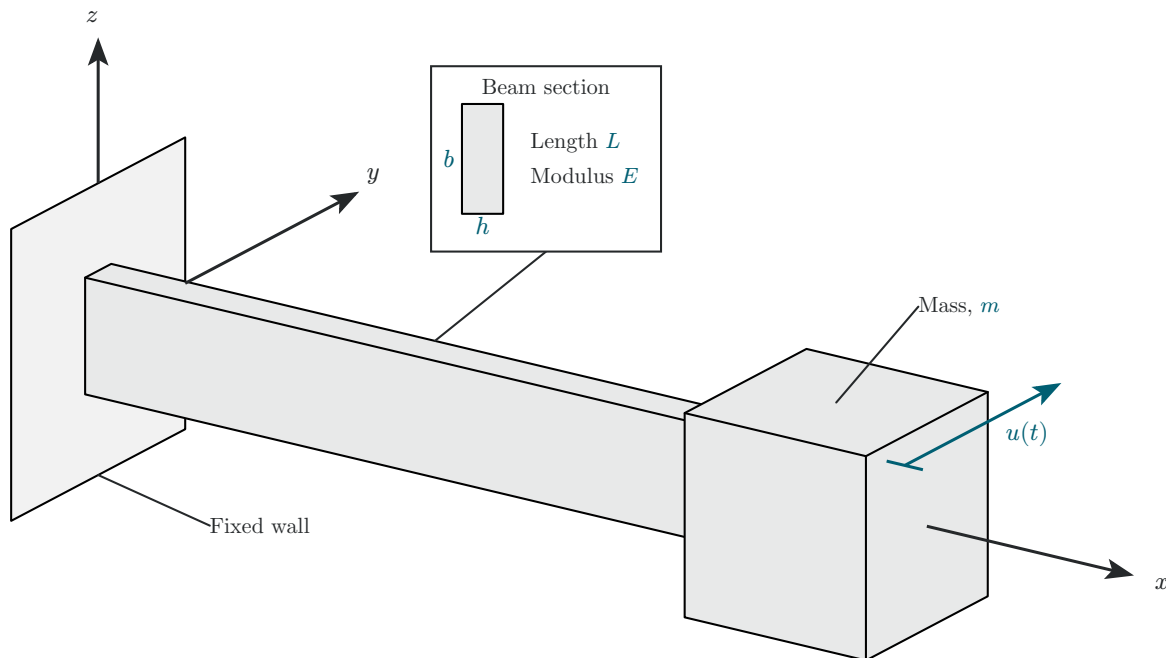

Figure 17: *Horizontal flex-beam vibrating system.*
Consider a cantilever beam of length L with a mass m attached at its tip as shown in Figure 17. The beam cross-section properties are E , h , b .
- (1) Assume vibration with horizontal time-varying displacement $u(t)$ as shown in Figure 17.
- (2) Calculate the cross-sectional stiffness EI of the beam for flexural deformation consistent with $u(t)$.
- (3) Calculate the flex-beam spring constant k .
- (4) Draw free-body diagram (FBD) including all the forces acting on the mass m .
- (5) Deduce equation of motion (EOM).
- (6) Compare the EOM deduced here with the EOM derived in Problem B.1.
- (7) Solve the initial value problem (IVP) and find the response for simultaneous application of both initial displacement u_0 and initial velocity $\dot{u}_0$.